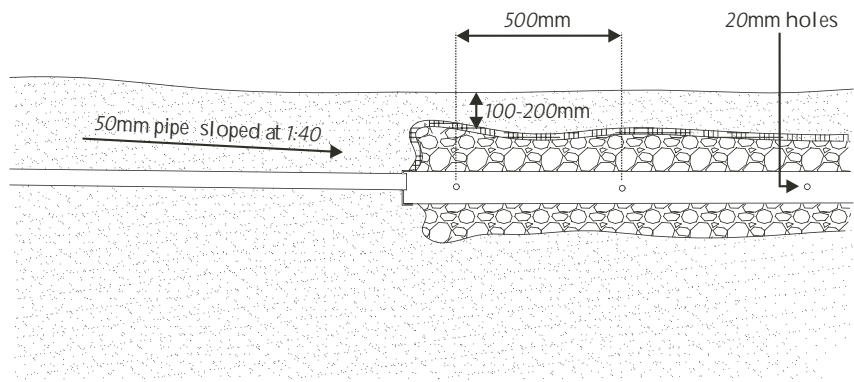

Figure 6
- > A chosen number of 200mm x 200mm piped irrigation trenches consisting of 90mm PVC rigid pipe with 20mm holes at 500mm centres and end caps laid level in an aggregate (size 20-40mm rock) filled trench 200mm deep and 200mm wide. The aggregate trench is covered by geotextile material to stop the ingress of soil and then covered with a minimum 100mm and maximum 200mm of soil (see Figures 6 & 7). The irrigation trenches are sized based on soil type, winter irrigation not occurring, the number of bedrooms or persons, and the fixtures connected to the reuse system (see Table 1). Further advice about other options can be obtained from your local government, Environmental Health Officer or the onsite wastewater regulator in your state (see Table 2).
- Installers are required to prepare the irrigation trench 90mm PVC pipe work before installation by drilling 20mm holes on opposite sides of the 90mm pipes along the length at 500mm centres (see figures 6 & 8). The 20mm holes are drilled at the same level along the length of the pipe sides so irrigation water can fill the pipe and flow out of all holes. Removal of burs around the edges of drill holes is required to avoid suspended matter being caught over time and effecting the flow.